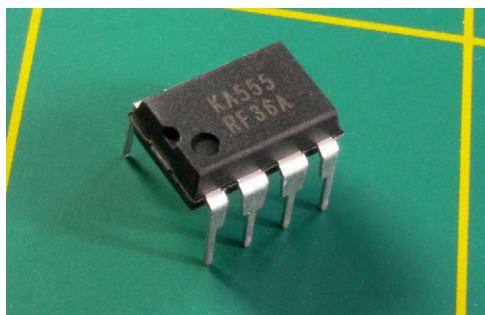

Figure 4-2. An integrated circuit chip in Plastic Dual-Inline Pin package, abbreviated PDIP, or, more often, DIP.
Figure 4-2 shows what is often referred to as an integrated circuit (IC). The circuit is actually etched onto a tiny wafer or “chip” of silicon, embedded in a black plastic body, which is properly referred to as the “package.” Tiny wires inside the package link the circuit with the row of pins on either side. Throughout this book, I will use the word “chip” to refer to the whole object, including its pins, as this is the most common usage.
Just about every chip has a part number printed on it. In Figure 4-2, the part number is KA555. In Figure 4-3, the DIP chip’s part number is M74HC00B1, and the surface-mount chip is a 74LVC07AD. You can ignore the second line of numbers and/or letters on each chip, as they are not part of the part number.
- 555 Timer. STMicroelectronics SA555N, Fairchild NE555D, RadioShack TLC555 (part number 276-1723), or similar. Do not get the "CMOS" version of this chip, or any fancy versions such as those of high precision. Buy the cheapest you can find. Quantity: 10. The chip in Figure 4-2 is a 555 timer.